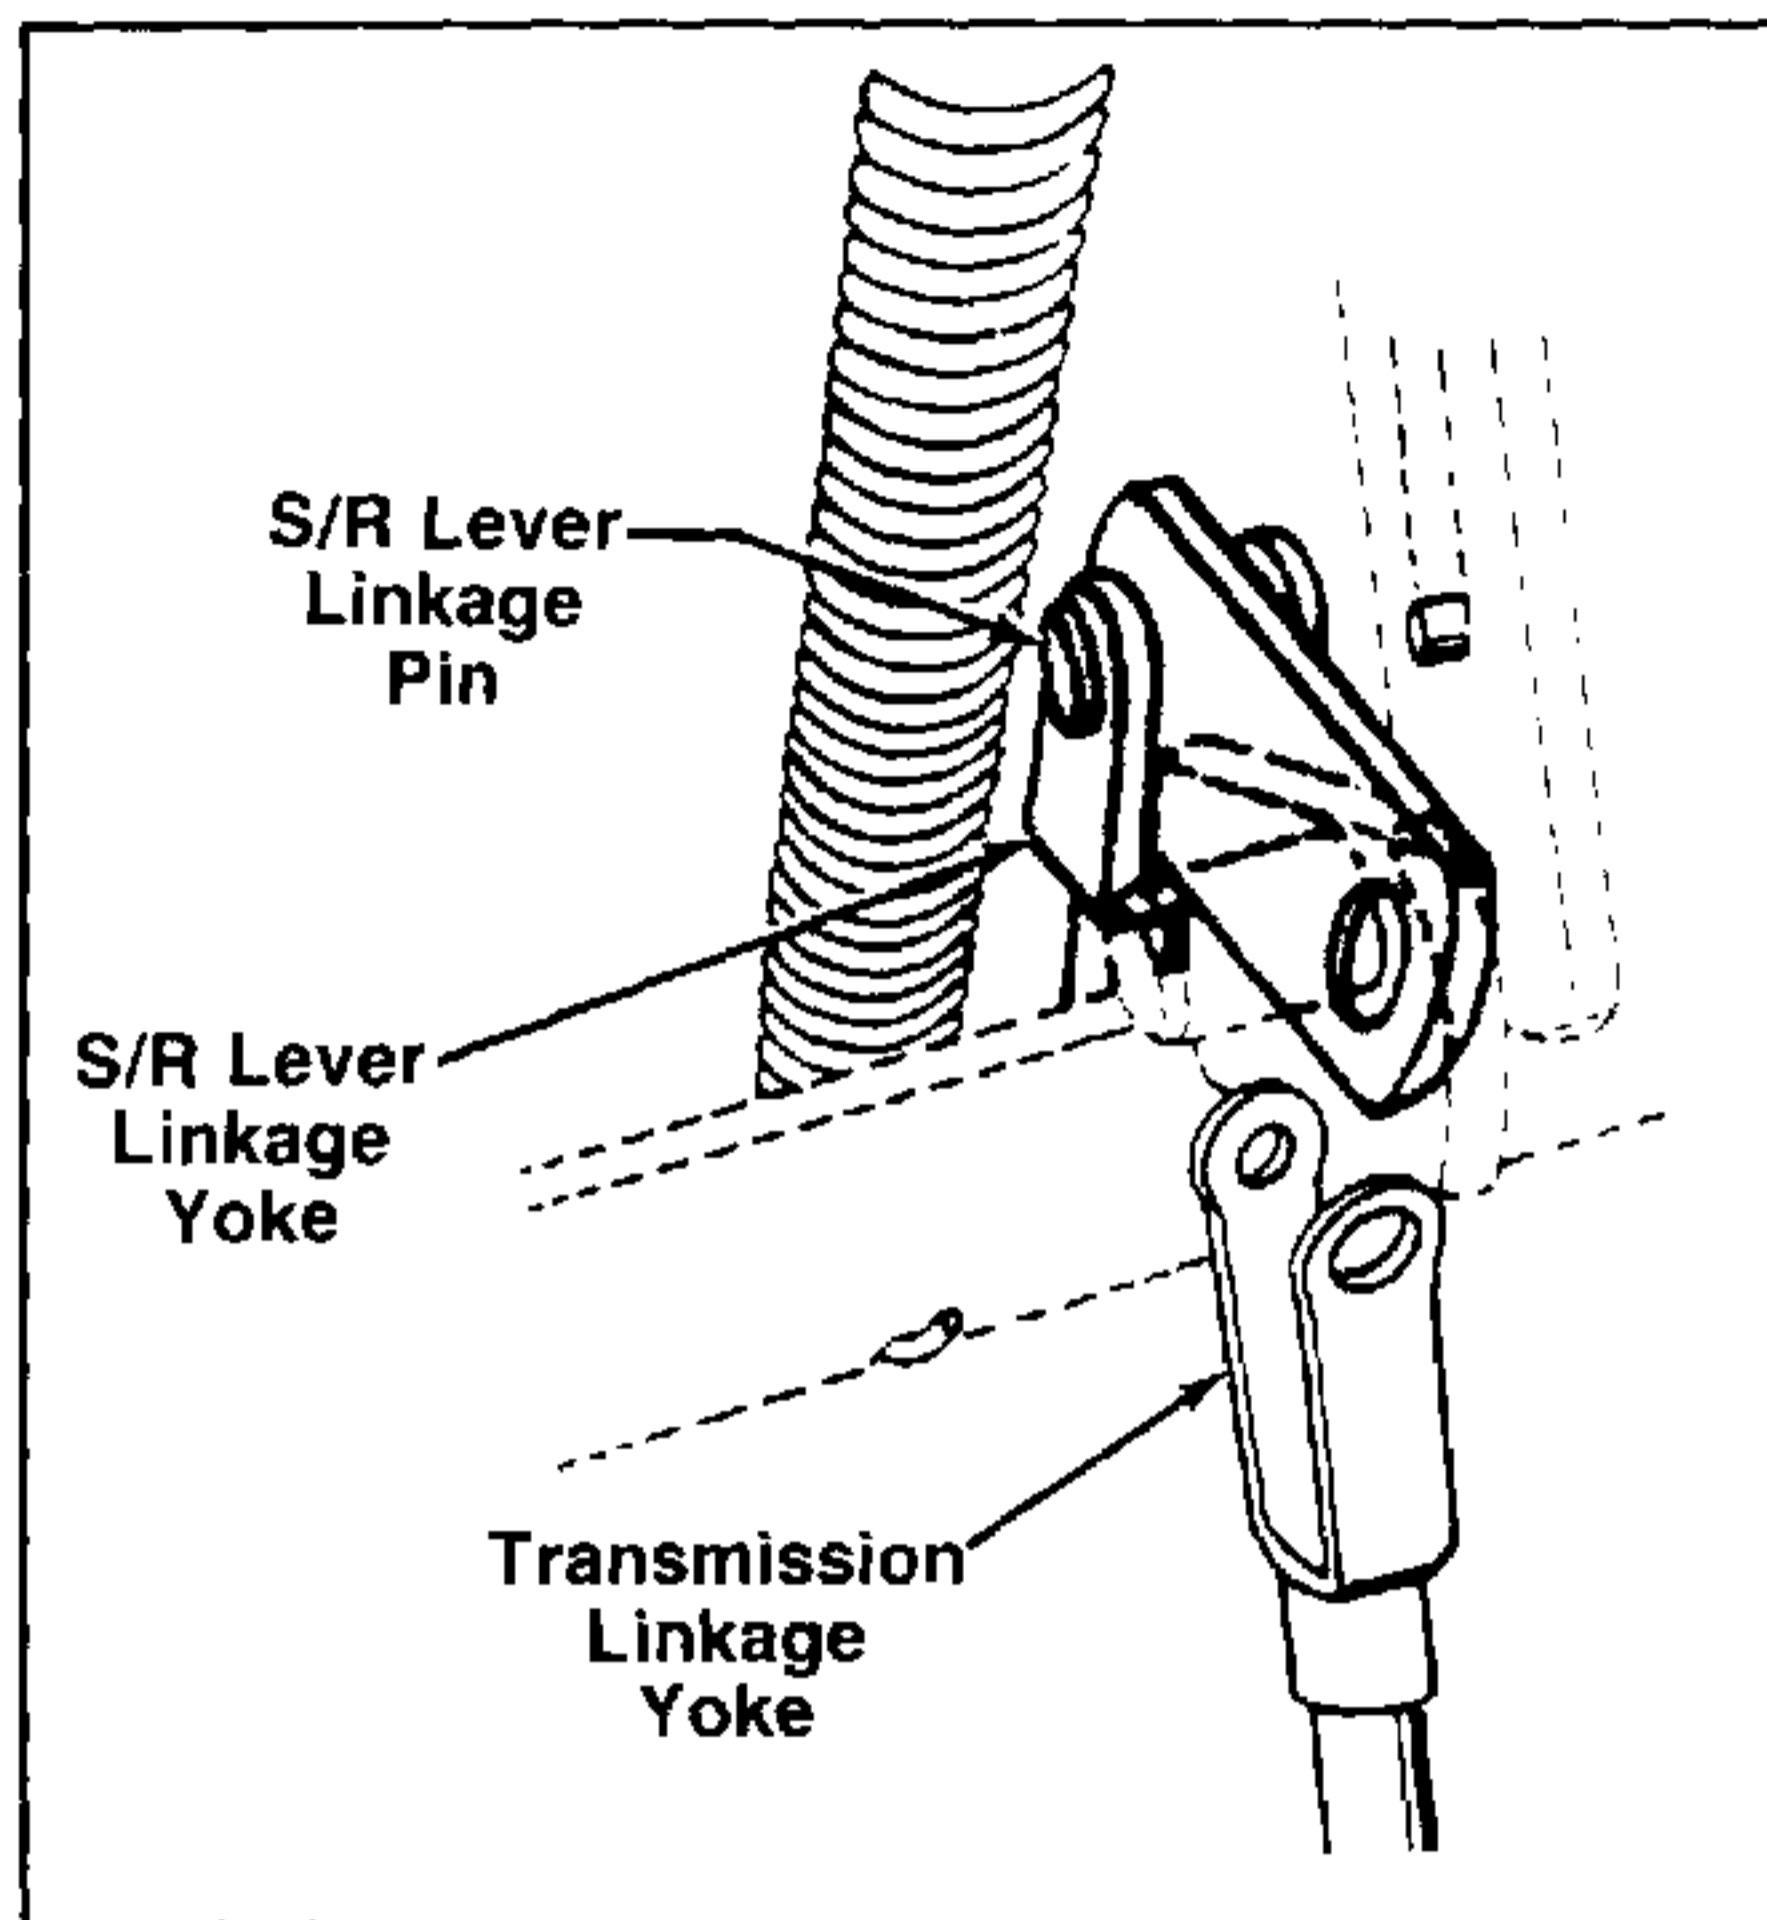

FIGURE 2.
5. Remove cotter pin and headed pin that retains S/R lever linkage to pivot arm. See figure 2.
10. Remove headed pin that retains S/R lever linkage to pivot arm. See figure 2.